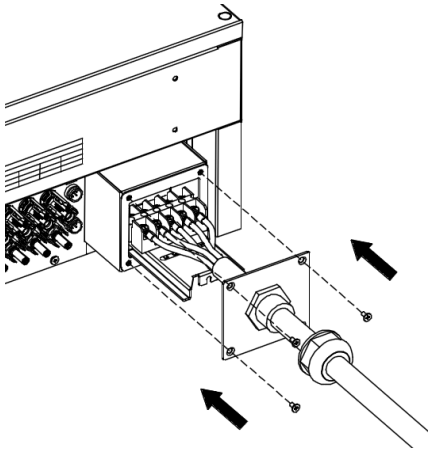

Figure 4.22 Fix the waterproof cover of junction box
(7) Push the AC terminal rail into the inside of the case and fix the rail with screws. Then lock the waterproof cover of the junction box with the fixing screws. The tightening torque is $1.5\text{N}\cdot\text{m}$. Finally, tighten the waterproof connector to complete the waterproofing of the cable, as shown in Figure 4.22.